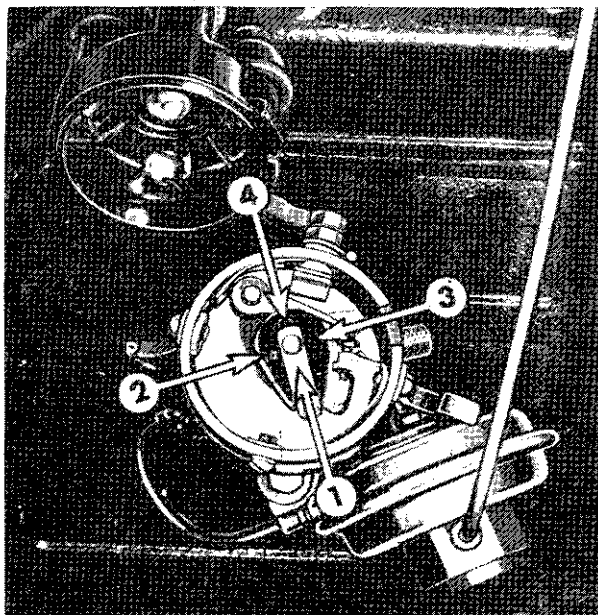

FIG. 166—FIRING POSITIONS — FOUR CYLINDER
- a. Remove high-tension wires from the distributor cap terminal towers, noting the order in which they are assembled to ensure correct reassembly. No. 1 spark plug terminal tower is in the 5 o'clock position. Starting with this tower, the wires are installed in a counterclockwise direction in firing order. See Fig. 166 or 167.
Connect the primary wire from the coil to the distributor. Install the spark plugs. Install the spark plug wires placing them in the distributor cap terminal towers starting with No. 1 and installing in counter-clockwise direction in the firing sequence which is 1-3-4-2 for four-cylinder engines. Fig. 166. Start the engine and run it until thoroughly warm and then recheck the timing with a neon timing light. When using the neon light disconnect the vacuum tube otherwise the distributor may advance slightly resulting in a false setting. Do not fail to reconnect the tube.